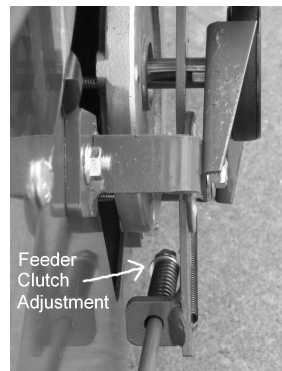

Figure 5 Feeder clutch spring adjustment
1. Adjust feeder clutch adjustment for 2" spring length when engaged. (See Figure 5)